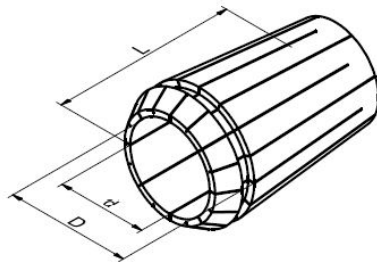

Fig.33– OZ 25 collet chuck acc. to EN 462 E
- Clamp tool shaft L along the whole length of the collet chuck (see Fig.33, on pg.53).